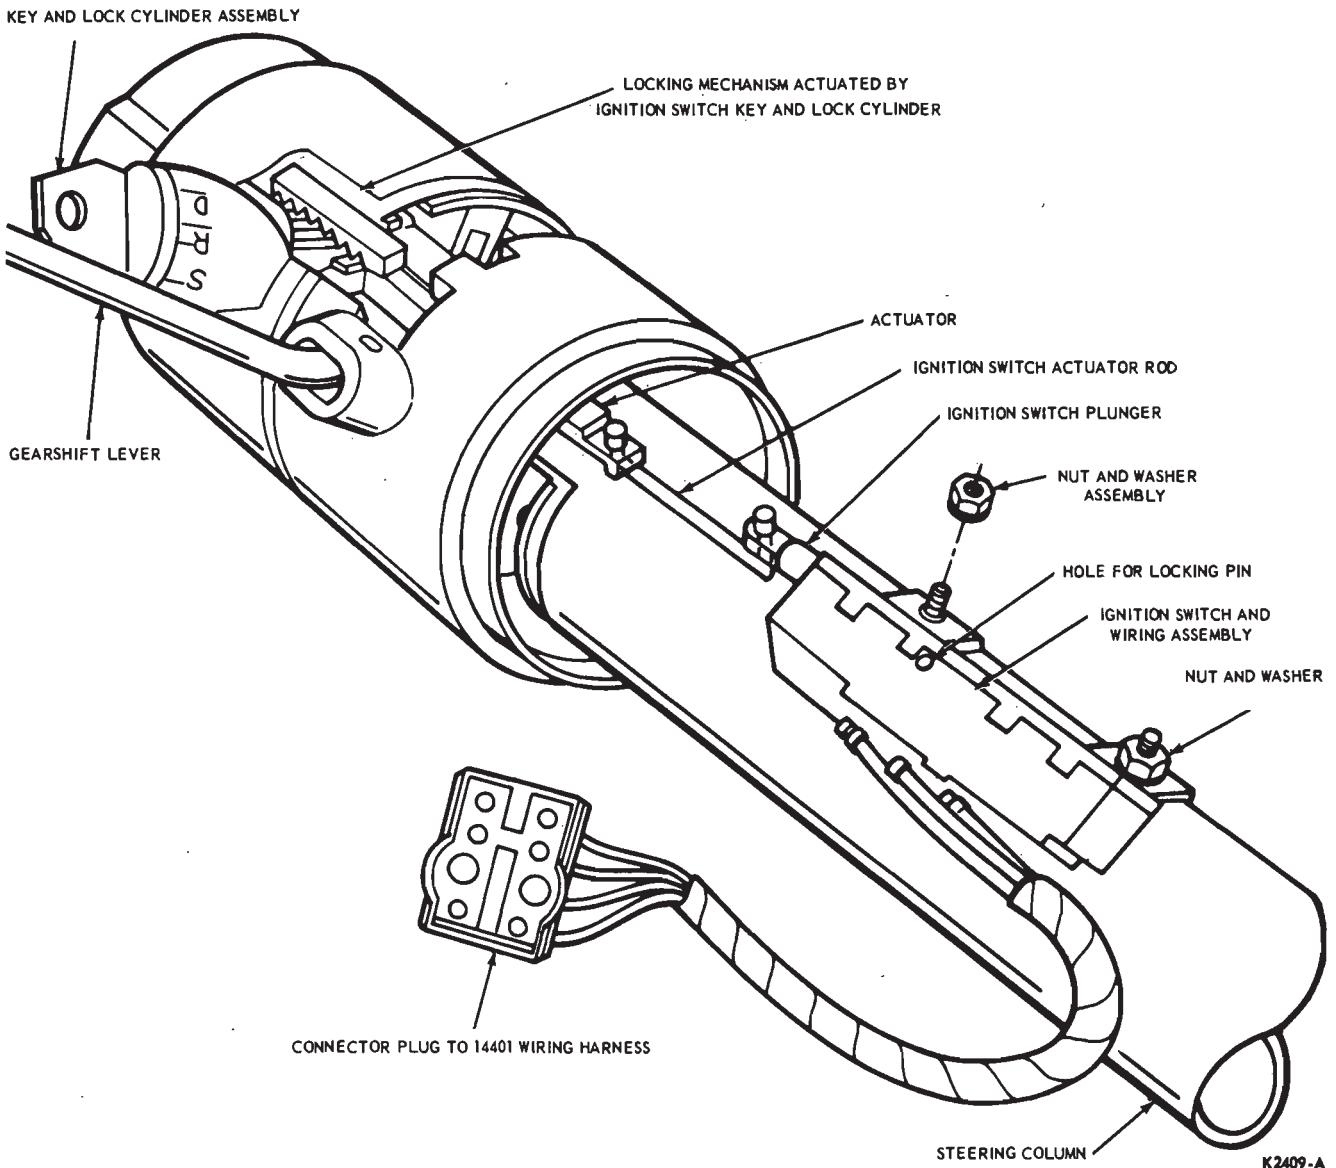

FIG. 5—Typical Ignition Switch Installation—Column-Mounted Gear Shift Lever Shown
The ignition switch is mounted on the steering column and is controlled by the lock cylinder through an actuator in the locking mechanism (Fig. 5). On vehicles equipped with a steering column-mounted gearshift lever, the switch plunger is connected to the
actuator by the switch actuator rod (Fig. 5). On vehicles with a floor or console-mounted gearshift lever, the switch is mounted higher up on the column so that the plunger is connected directly to the actuator by a pin.
The lock cylinder also controls the mechanism which provides a positive lock for the transmission linkage and the steering system. This locking mechanism, located in the casting at the upper end of the steering column (Fig. 5), is described in Group 3.
5. On vehicles with a steering column-mounted gearshift lever, detach the switch plunger from the switch actuator rod and remove the switch (Fig. 5).
4. Pull the switch plunger out as far as it will go, and then move it in one detent to LOCK position. Insert a 3/32-inch diameter wire or drill shank in the locking hole on top of the switch (Fig. 5). The switch is now pinned in LOCK position.
switch plunger out as far as it will go and then move it in one detent to LOCK position. Insert a 3/32-inch diameter wire or drill shank in the locking hole on top of the switch (Fig. 5). The switch is now pinned in LOCK position.
7. On a vehicle with a steering column-mounted gearshift lever, connect the switch plunger to the switch actuator rod (Fig. 5).